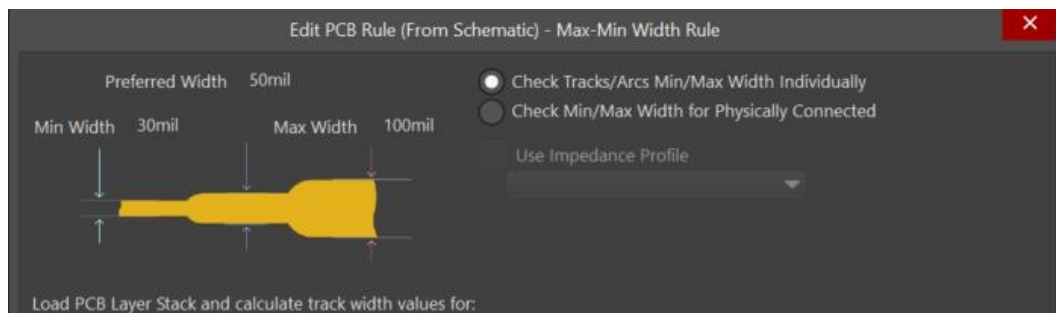

Figure 9. Width Rule settings
- f) In the upper section of the rule, set the following values as shown in Figure 9 below: